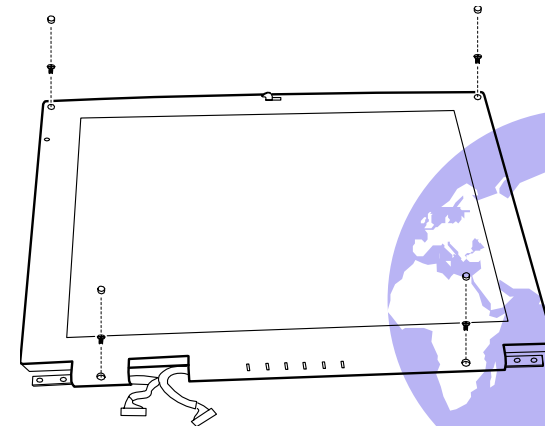

Figure 7-18. Removing the LCD Frame
2. Fit the LCD frame back to the housing and secure with four screws. (Refer to Figure 7-18 )